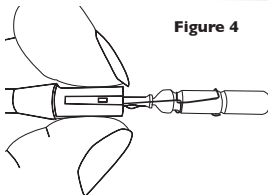

Figure 4
- Squeeze the nock cylinder by hand as figure 4 to release the circuit board anchors.